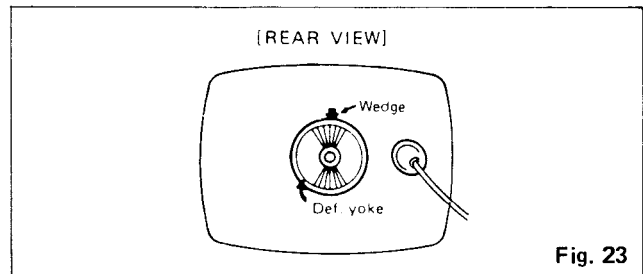

Fig. 23
2. Adjust the convergence around the edges of the picture tube by tilting the yoke, up-down and left-right, and temporarily install one wedge at the top of the yoke. (Fig. 23, 24, 25.)